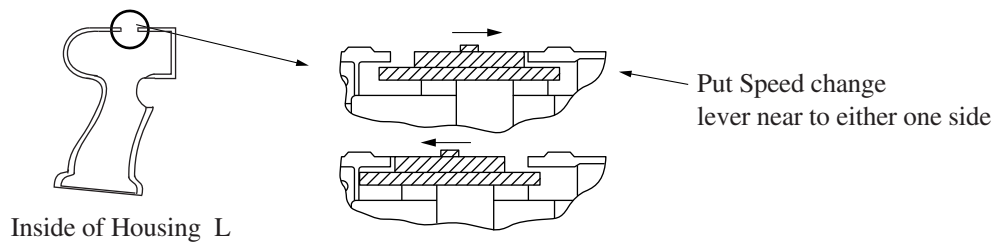

Fig.5
- 1) When attaching a unit of gear assembly and motor, etc. to housing L, place speed change lever in the position as shown in Fig. 5.